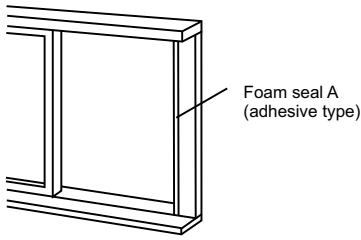

Fig.12
1. Cut the foam seal (adhesive type) to the proper length and attach it to the window frame. See Fig.12.